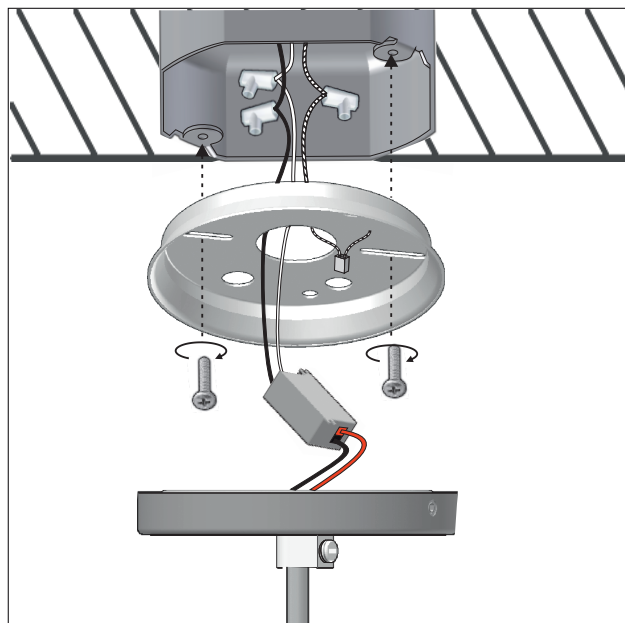
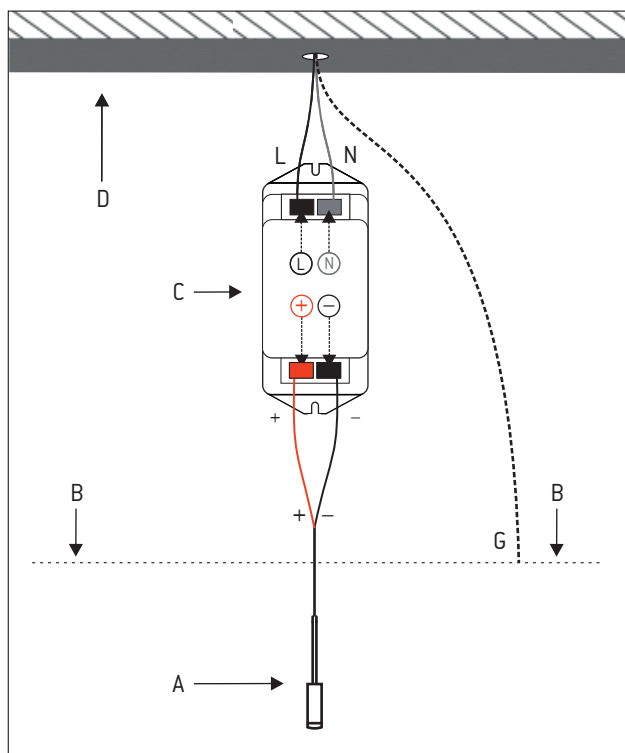

Figure 3
Figure 4
3 - Make the electrical connections inside the junction box. Attach the mounting bracket to the ceiling. Figure 3. See figure 4 for connection scheme.
**Attention:** Respect the polarity (+) (-). Make sure the red wire is connected to the positive symbol to avoid electrical failures. The driver (C) must be used for installation, otherwise the LEDs will burn out. Figure 4.